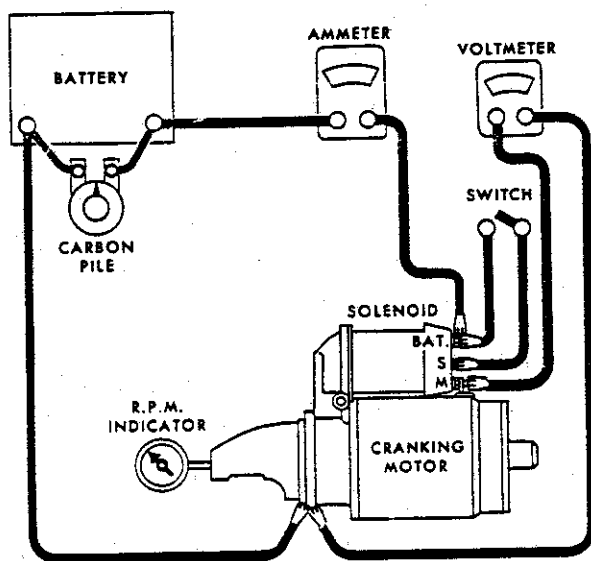

Figure 6-4. No-Load Test Setup
- (2) No-Load Testing. Make test as shown in figure 6-4. Connect a voltmeter from the motor terminal to the motor frame, and use an r.p.m. indicator to measure armature speed. Connect the motor and an ammeter in series with a fully charged 12 volt battery and a